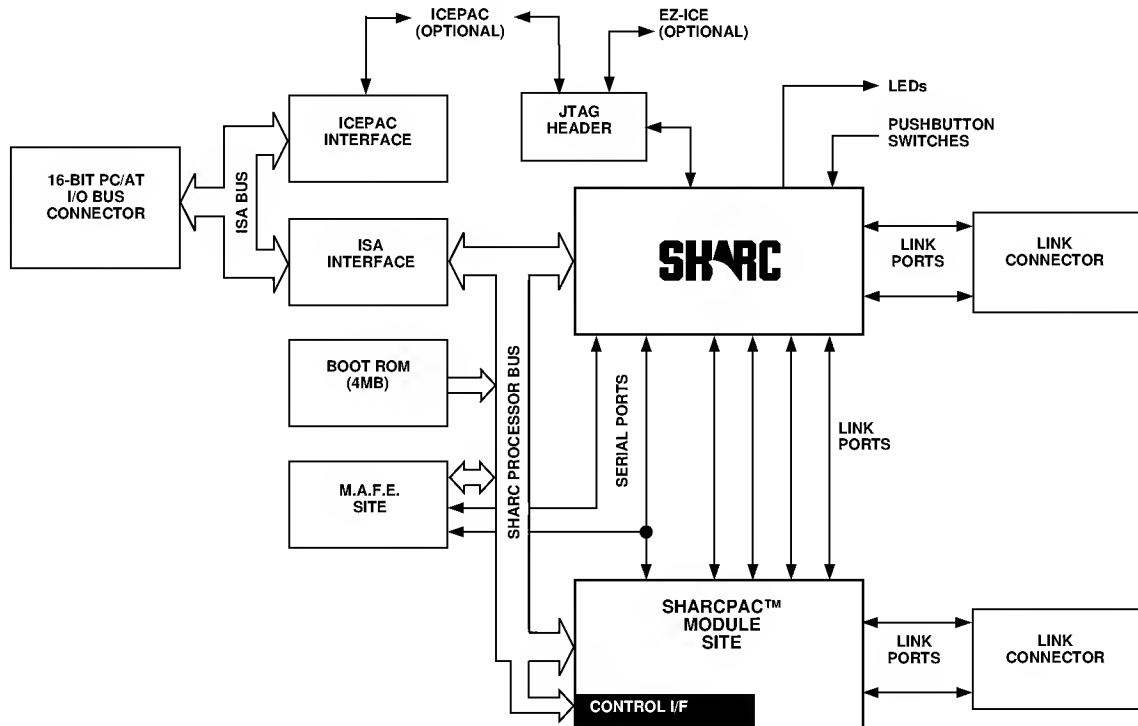

Figure 2. ADSP-2106x EZ-LAB Board
**EZ-LAB Development Board Overview:** The EZ-LAB Development Board is a 16-bit AT compatible plug-in board that lets you control and observe ADSP-2106x executable programs operating in real-time from on-board RAM. Optional processor and memory expansion modules from third parties let you customize the EZ-LAB. Several demonstration programs accompany EZ-LAB for you to familiarize yourself with and evaluate the ADSP-2106x floating-point DSPs. Figure 2 shows the EZ-LAB Board.